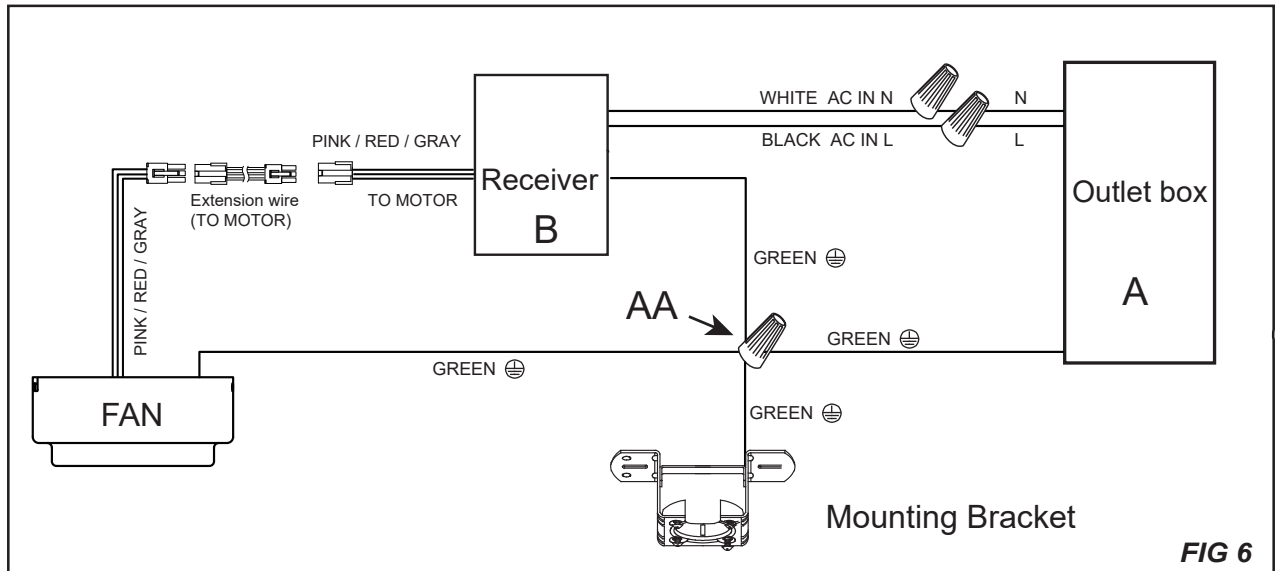

FIG 6
Step 6. Making the electrical connections (see figure 6)
1. Motor to Receiver & Receiver to house supply wires (see figure 6)
- Connect the ground wire (green) from the fan, the ground wire (green) from the receiver (B) and the ground wire (green) from the mounting bracket to the ground wire (green) from the in outlet box(A).